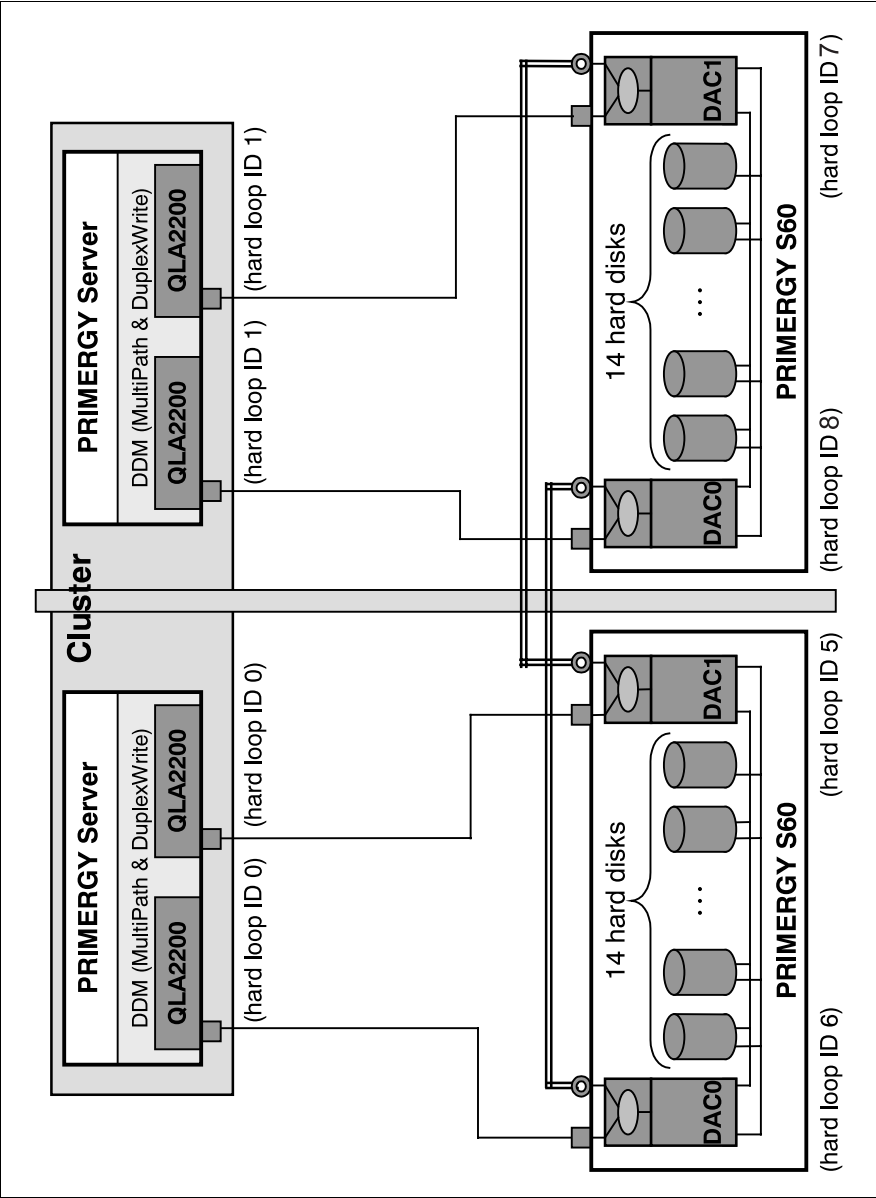

Figure 25: Cluster with MultiPath and DuplexWrite
- Loop IDs (see figure 25 on page 37)